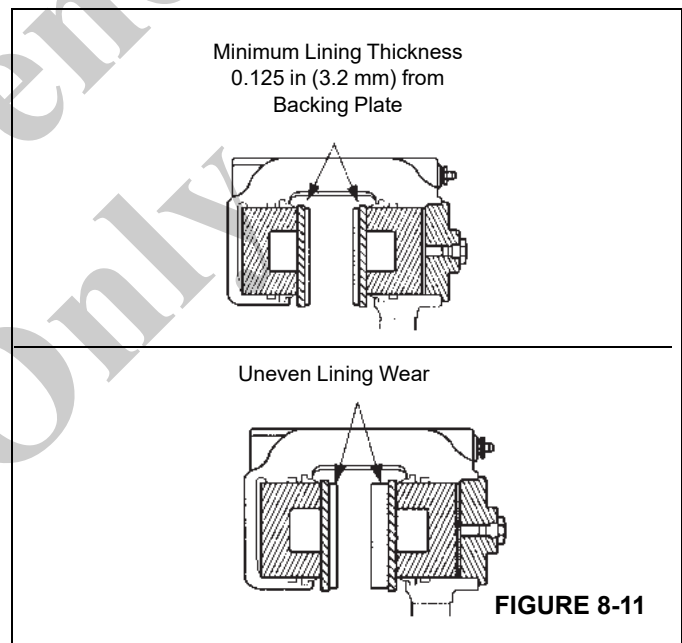

FIGURE 8-11
- Lining Wear. Replace the linings when the thickness of the lining is less than 0.125 in (3.2 mm) from the back plate (Figure 8-11).
- Lining Wear Not Even. Replace the linings if the thickness of the two linings is significantly different. Check the pistons for correct operation. Replace the piston and/or housing if a piston is cocked in the bore. Check that the disc surface is flat and parallel to the linings (Figure 8-11).